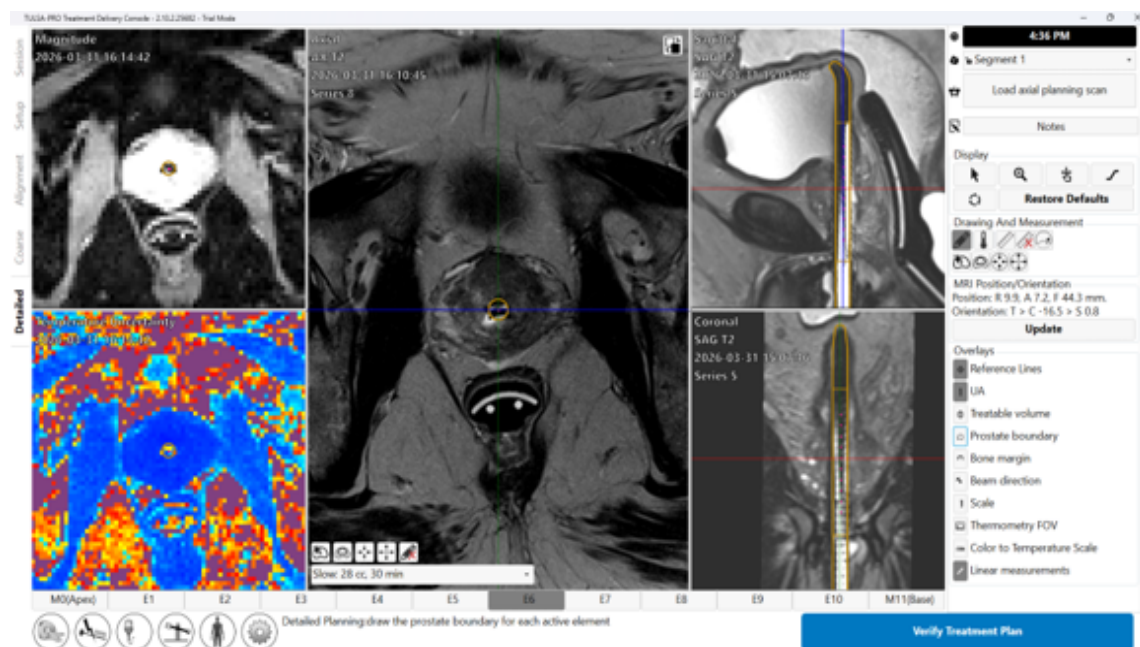

Figure 40: Detailed Planning workspace with Thermometry Magnitude and Temperature Uncertainty
9. Run AX THERM by clicking **Scan**. TDC will automatically receive the thermometry images. As the thermometry scans are received, the Magnitude and Temperature Uncertainty views will be displayed to facilitate treatment planning (*Figure 40*).